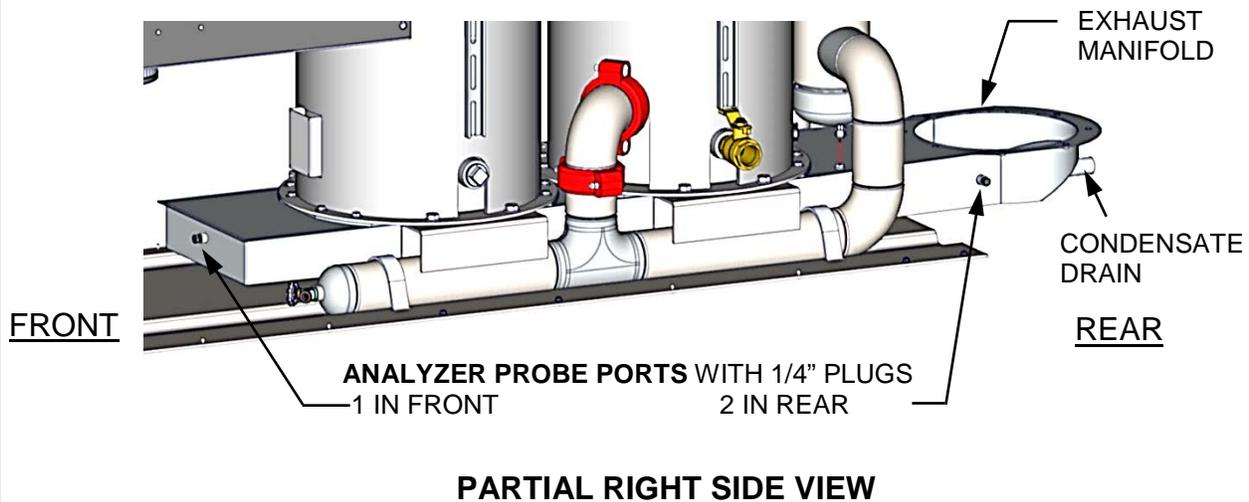

Figure 4-2: Analyzer Probe Hole Locations
The unit contains a 1/4" NPT port on the side of the exhaust manifold as shown in Figure 4-2. Prepare the port for the combustion calibration as shown below.
1. Refer to Figure 4-2 and remove one of the three 1/4" NPT plug from the desired location on the exhaust manifold. There are three 1/4" NPT ports, one in the front of the exhaust manifold and two in the rear, on the left and right sides.
18. With the valve position at 100%, insert the combustion analyzer probe into the exhaust manifold probe opening (see Figure 4-2) and allow enough time for the combustion analyzer reading to stabilize.
20. Compare the measured oxygen level to the oxygen range shown in Table 4-2. Also, ensure that the nitrogen oxide (NO_x) and carbon monoxide (CO) readings do not exceed the values shown in Table 4-2. If your target NO_x value is 9 ppm or less, use the values in the Ultra-Low NO_x columns. If you are not in a "NO_x-limited" area and/or do not have a NO_x measurement in your analyzer, set the oxygen (O₂) at 5.5% ± 0.5%.